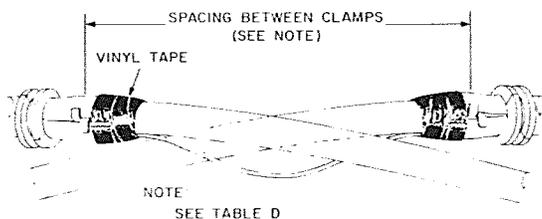

Fig. 17—Tabs Taped Down
3.14 Position one inner sheath clamp in center of tab slot. Bind down the tabs with at least two layers of vinyl tape to hold the clamp firmly in place. Position the other inner sheath clamp at correct spacing and bind down the tabs to hold it in place. **Do not cover the projecting ears of the clamps**, because this will prevent electrical connection with the splice case and permanent bonding of the metal shield (Fig. 17). **Do not wrap tape over the clamping area; tape buildup will interfere with the seating of the inner sheath clamp in the splice case halves.** After tabs are taped down, approximately one inch should be trimmed off the tab length.